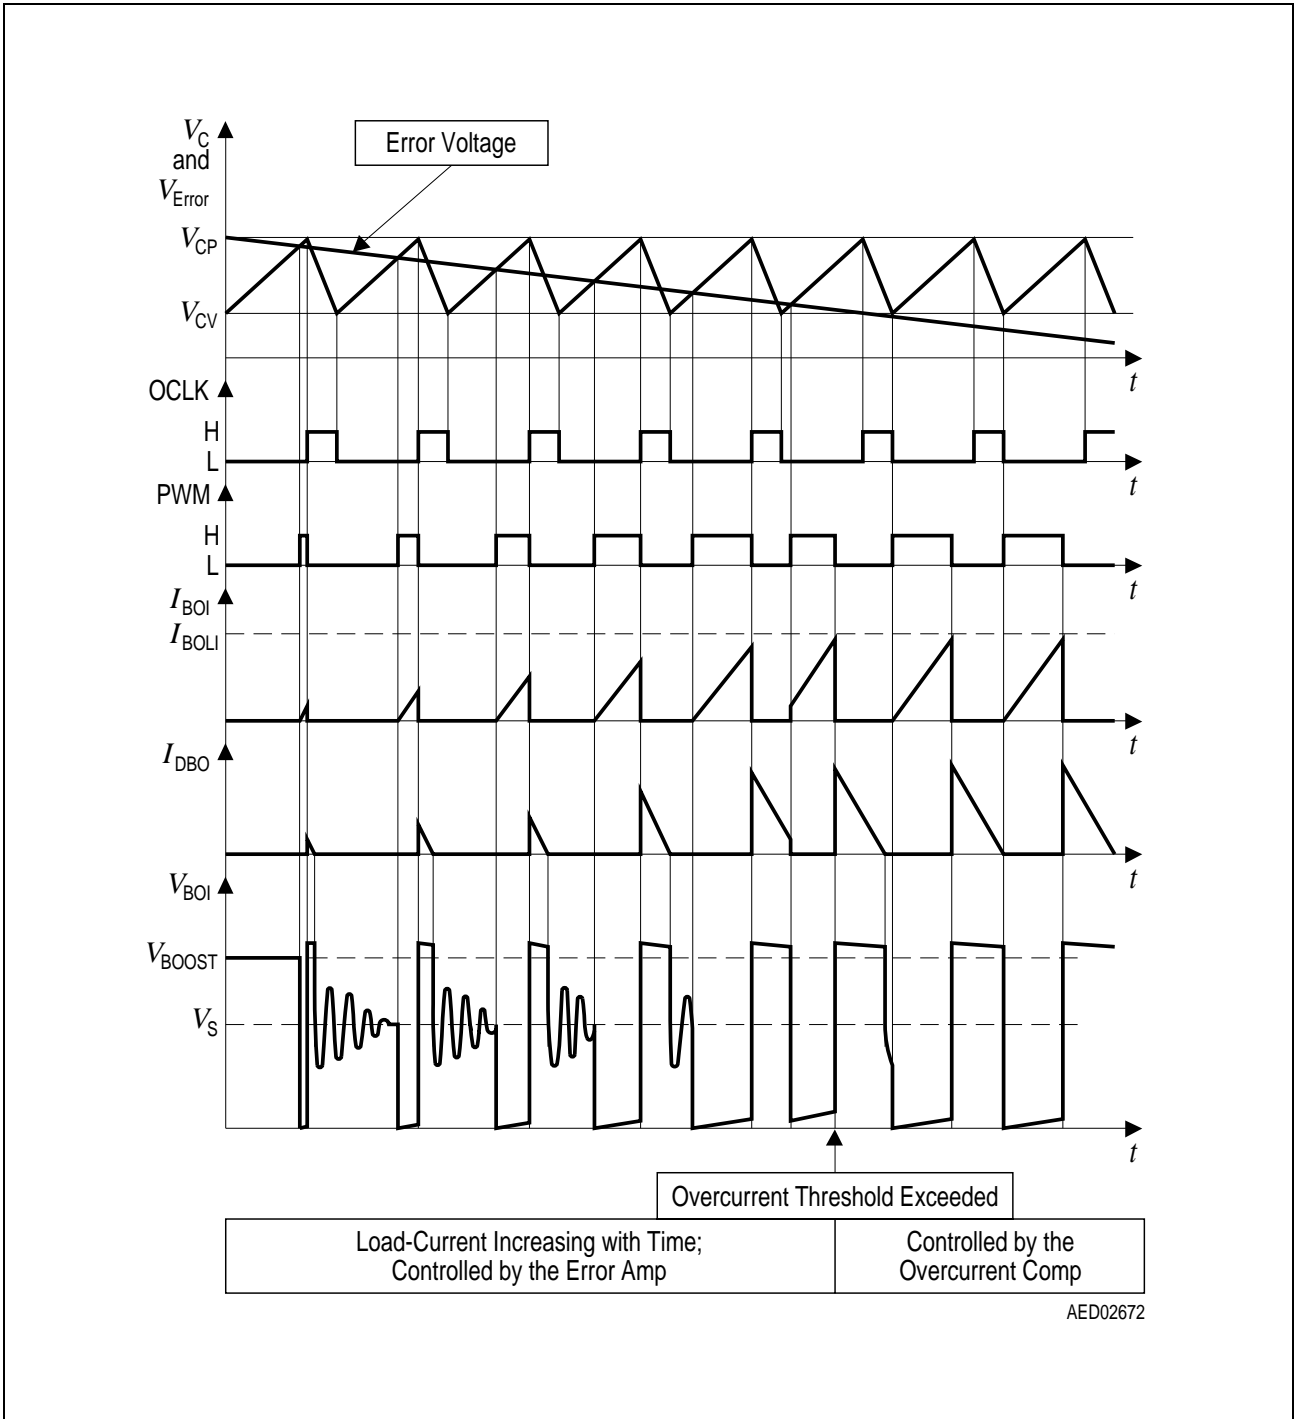

Figure 7 Most Important Waveforms of the Boost Converter Circuit
**Figure 7** shows the most important waveforms during operation; for low, medium and high loads up to overload condition. The output transistor is switched off immediately if the overcurrent comparator detects an overcurrent level at the power DMOS or if the sense output switches to low induced by a  $V_{BOOST}$  undervoltage command.